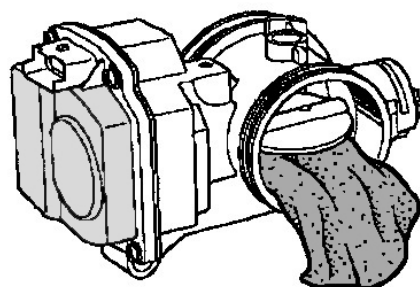

Fig. 2
- After this, remove the loosened dirt using a rag (see Fig. 2).